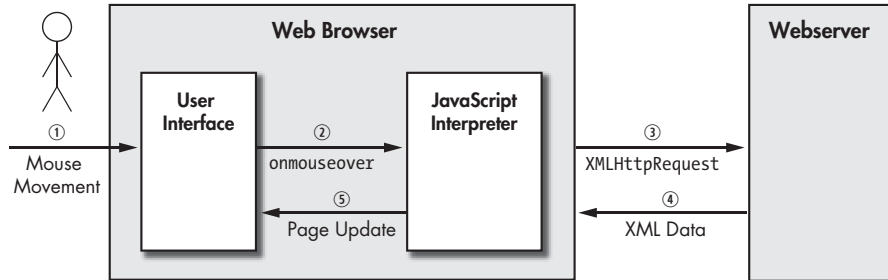

Figure 8-7: Typical Ajax sequence.
Figure 8-7 shows an example of how the Ajax communication mechanism works. The exchange in this figure is initiated when the user mouses over an active element on the web page at event ①. An `onmouseover` action is triggered and JavaScript code is executed in the web browser at event ②. The JavaScript code creates an XMLHttpRequest object with the URL of the server-side script and a JavaScript callback function, and the web browser then sends the XMLHttpRequest object to the server at event ③. On the server side, the particular script identified by the URL responds with XML data at event ④.